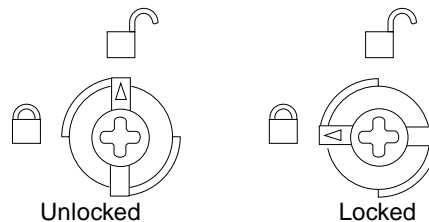

FIGURE 1-2 Unlocking and Locking Quarter-Turn Access Slots
**3. With a Phillips #1 screwdriver, turn the two quarter-turn access slots to the unlocked position (FIGURE 1-2).**
6. **Lock the board to the system card cage by inserting a Phillips #1 screwdriver into each quarter-turn access slot and then turning the slot to the locked position (FIGURE 1-2).**